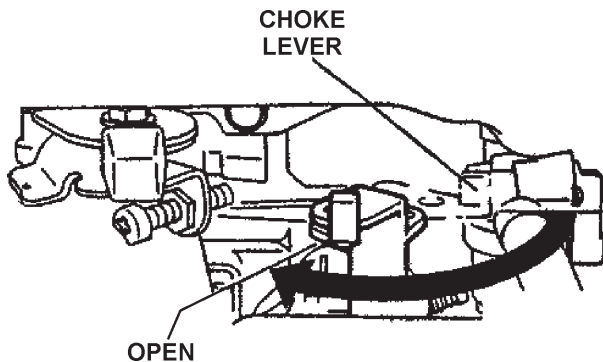

Figure 9. Choke Lever (Open)
3. Place the **choke lever** (Figure 9) in the **OPEN** position if starting a **cold** engine.